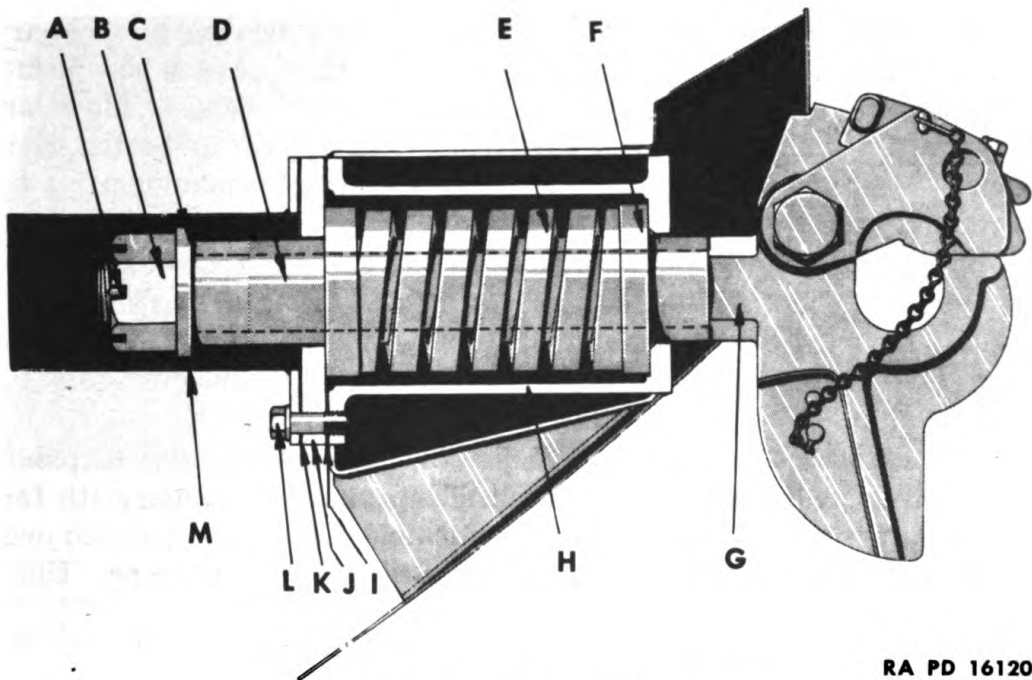

Figure 154—Pintle Hook Installation
(1) Place surf coaming assembly in position on front end of bow deck and align holes in hinges with holes in deck plate.
(2) Install eight bolts through hinges and deck plate. Put nuts on hinge bolts from inside bow compartment and tighten securely. Close bow compartment hatch cover. Engage cover clamps with hold-down bolts and tighten wing nuts to clamp hatch cover in closed position.
(3) Place surf coaming braces in clamp brackets, swing hinged clamp plates over braces, engage end of each clamp plate with clamp bolt and tighten wing nut securely.
i. Pintle Hook Removal. Pintle hook is mounted through rear end of hull and removal must be accomplished from inside stern compartment. Refer to Fig. 154.
(1) Loosen wing nuts on stern compartment hatch cover hold-down bolts, disengage bolts from cover clamps and open hatch cover.
(2) After entering stern compartment, remove six bolts which attach pintle hook end cover to inner end of housing in stern bulkhead. Remove cover and gasket. Remove cotter pin, large nut and flat washer from end of pintle hook shaft.
(3) Slide retainer plate and gasket off spring outer sleeve. Slide spring outer sleeve, spring, and spring inner sleeve off end of pintle shaft.
(4) Assistant at rear of vehicle may then pull pintle hook outward from hull to clear end of shaft.
j. Pintle Hook Installation (Fig. 154).
(1) Insert end of pintle hook shaft through hole in rear end of hull from outside vehicle. While hook is held in position against hull by assistant, enter stern compartment and slide spring inner sleeve, spring, and spring outer sleeve over end of pintle shaft.
(2) Assemble inner gasket and retainer plate over end of spring outer sleeve. Install flat washer over end of pintle shaft and thread large nut on shaft. Tighten nut sufficiently to hold coil spring under slight tension to eliminate rattles. Then install cotter pin.
(3) Place outer gasket and end cover in position against retainer plate and housing in rear bulkhead and install six attaching bolts, tightening securely to prevent leakage around gaskets.